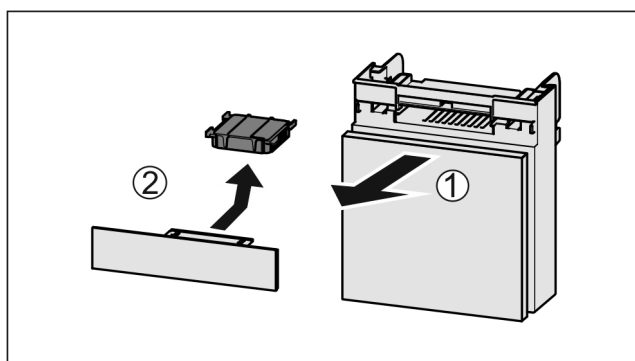

Fig. 169
- Pull out the compartment Fig. 169 (1).
- Remove the carbon filter Fig. 169 (2).